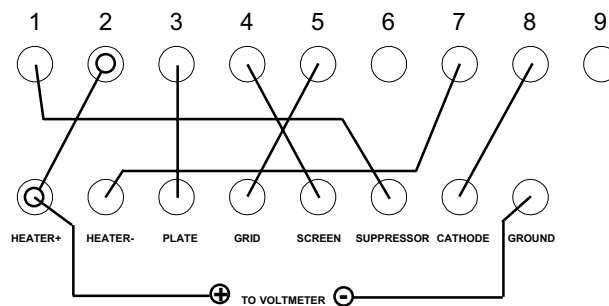

FIGURE 8.5 – Connections to verify filament voltage
- Turn the filament on again and measure, with a voltmeter, the filament voltage between the HEATER+ and the GROUND terminals; refer to Fig.8.5 for connections.